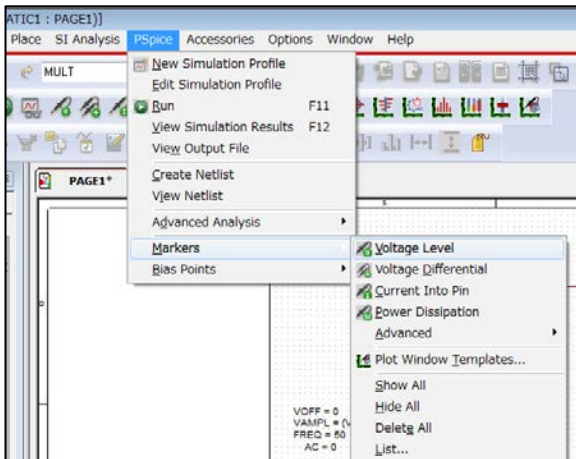

Fig. 5.8 Selecting a marker type
- (1) From the menu bar of OrCAD® Capture, select **PSpice - Markers** and then a type of marker as shown in Fig. 5.8.